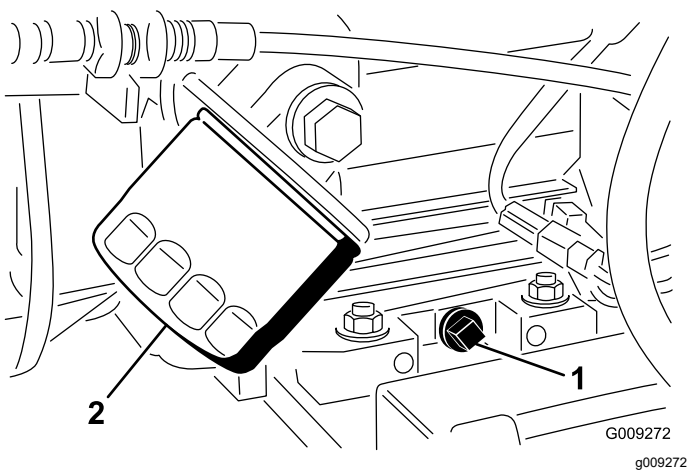

Figure 35
2. Align a large drain pan under the oil-drain plug (Figure 35).
3. Remove the drain plug and let the oil flow into a drain pan (Figure 35).
5. Remove the oil filter from the filter adapter (Figure 35).